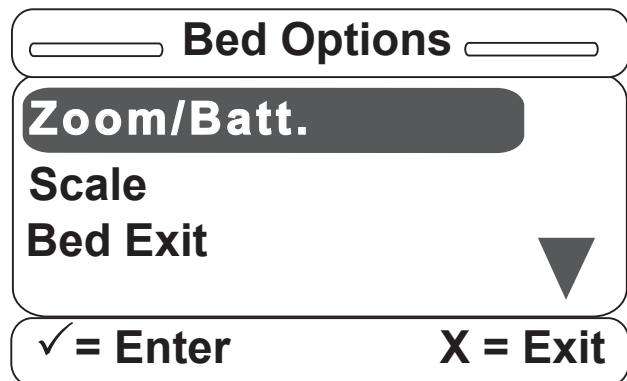

Figure S-5
- After Bed Options is chosen the menu in Figure S-5 will be displayed on the screen. **Each option must be set to ON** (i.e., Zoom/Batt. or Bed Exit). **Configure each option in the order presented on the screen** (i.e., set the Zoom/Batt option, then Scale, then Bed Exit which should be set before the Awareness option). Select Zoom/Batt option and press "Enter" on the footboard panel. If needed, press "Exit" to cancel the operation.